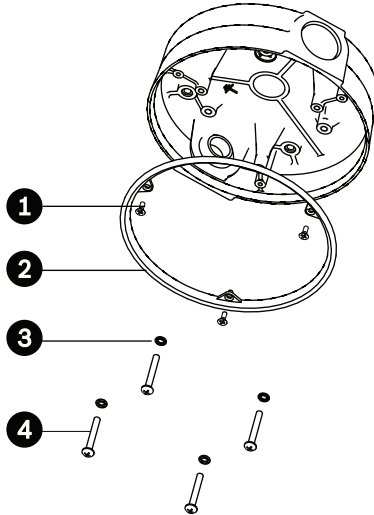

Figure 4.6 O-ring and retaining ring for outdoor installation
3. Drill the four (4) holes in the installation location. Use a minimum screw length of 10 mm (.39 in.).
5. Thread the four (4) 3.97 mm I.D. by \varnothing 1.78 mm O-rings (Item 3, *Figure 4.6*) onto the four (4) M4 or #10 user-supplied pan head screws. The O-rings are supplied with the AutoDome Easy II Outdoor Camera.
- b. Thread the flat side of the gasket (item 1, below) onto the recessed side of the retaining ring (item 2). The illustration below shows a cross-section of the gasket on the retaining ring.